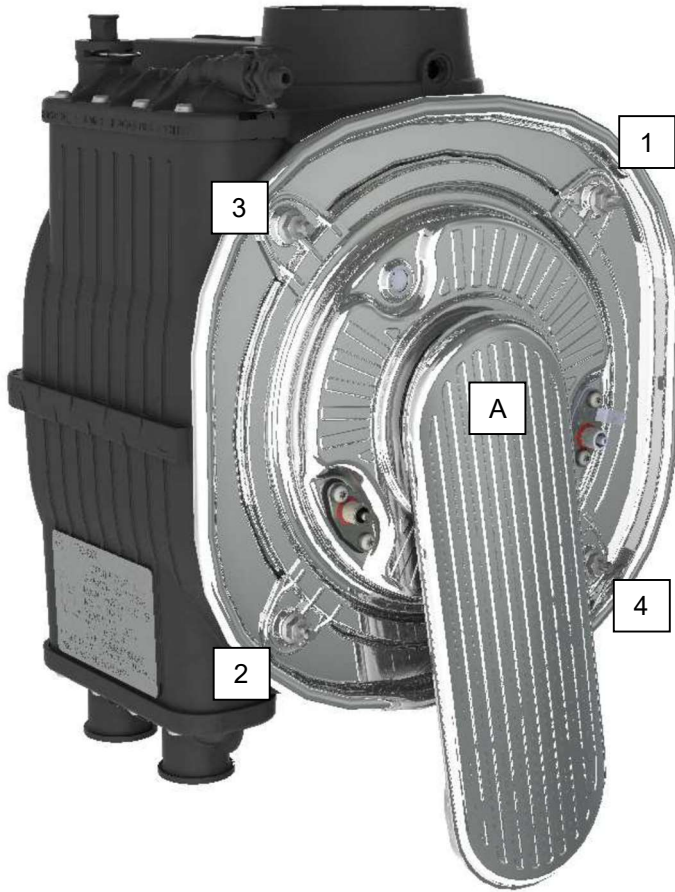

Figure 19.23
- Tighten the nuts in the order given in figure 19.23